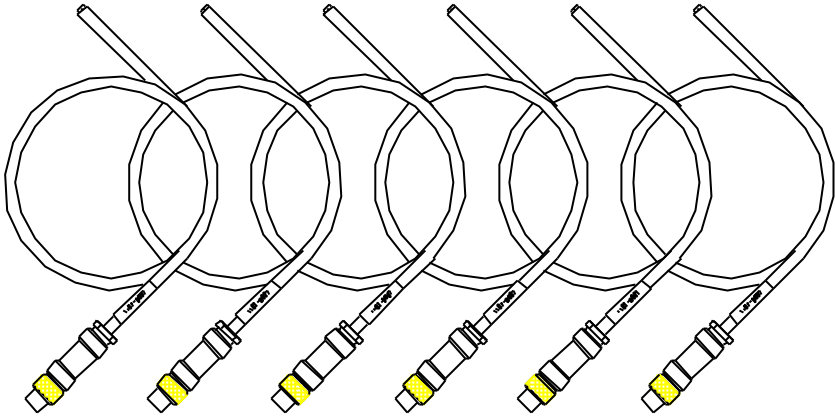

Figure 6 Bias Tee Cable Kit for Outdoor PDU
- b) +12V DC Output connections to the Outdoor Bias Tees are provided using six cables with 'Binder' connectors (one for each Bias Tee) shown in Figure 6. The cables are passed through six 'Bias Tee Feed' grommets on the enclosure panel. PIN connections on the connector block inside the enclosure are as follows: